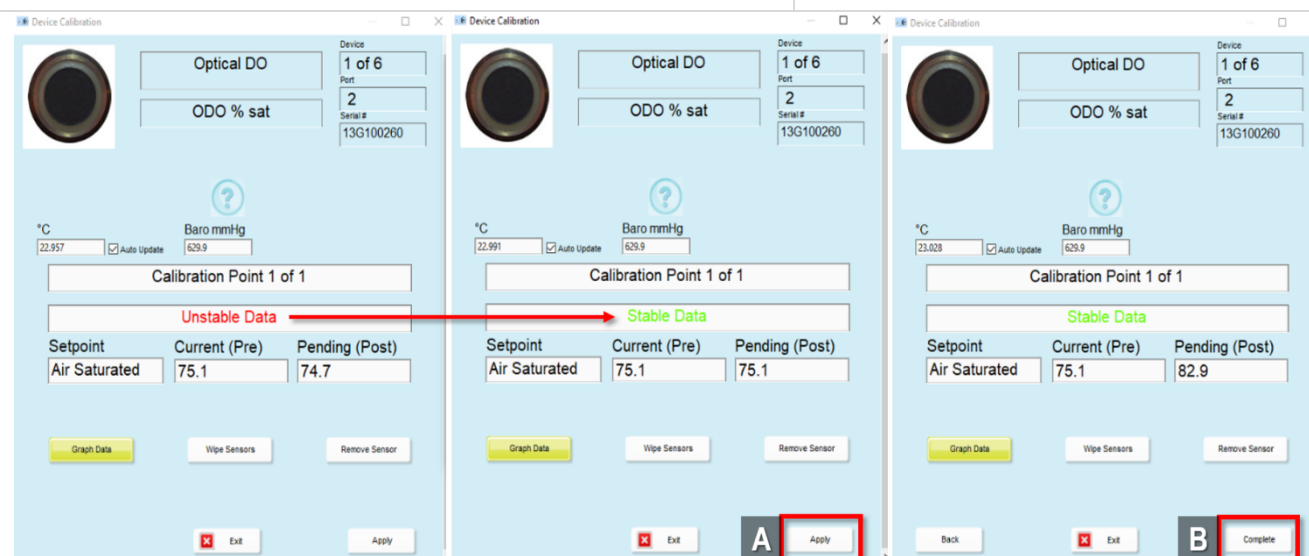

Figure 126. Wait for Stable Data, then Click "Apply", then "Complete" to Complete Calibrating the DO Sensor
**STEP 3** | Wait for the DO sensor data to stabilize. Click **“Apply”**, then **“Complete”** when the Device Calibration window states Stable Data (Figure 126). *If you encountered an override pop-up window after clicking “Complete”, see Section 5.4.2.10.*